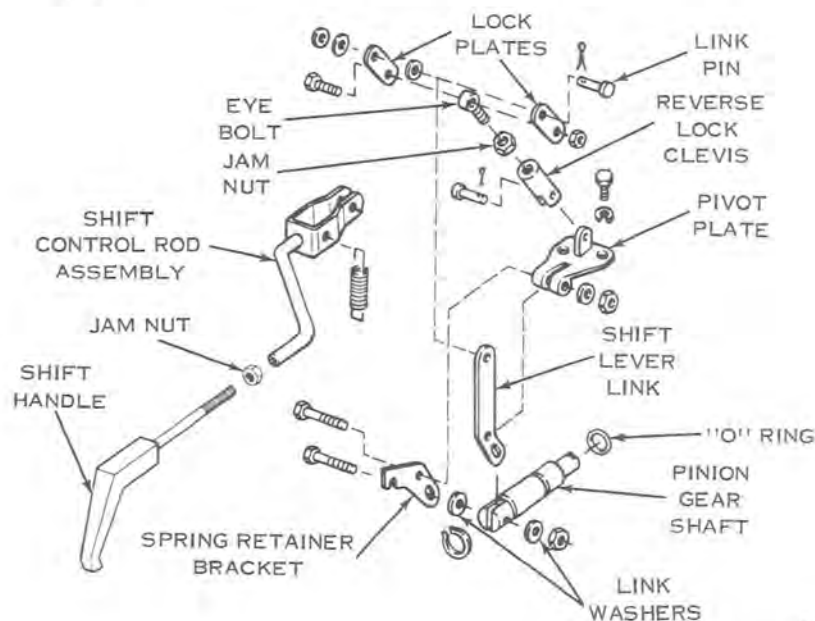

Figure 10-27
- Be sure that the linkage has been correctly assembled. See Figure 10-27.
- Attach end of control rod to linkage. See Figure 10-27. Attach assist spring.
- Check operation of shift mechanism, moving from forward to reverse several times. Use a quick, abrupt action. Be certain that the reverse lock clevis goes "over center" (see Figure 10-27) each time.